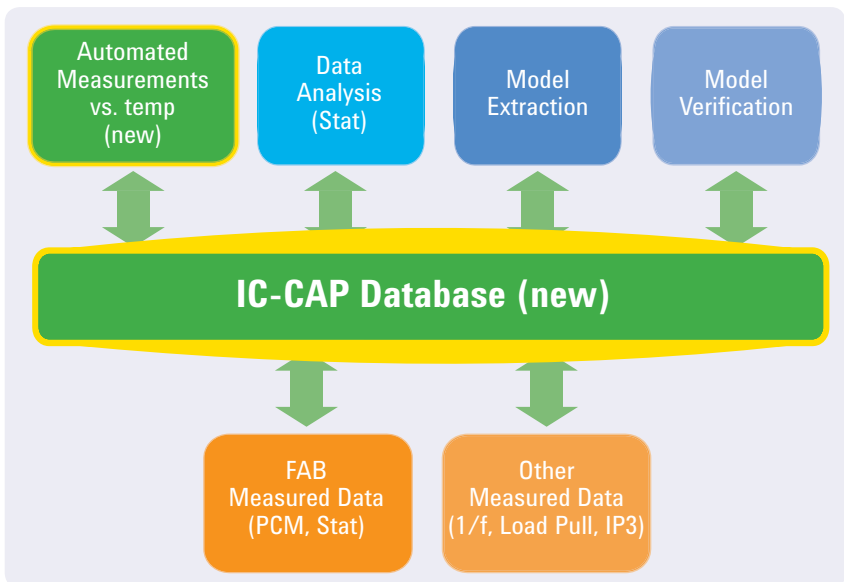

Figure 1. Typical device modeling flow
Accurate DC/CV (and RF) statistical modeling of CMOS devices requires collecting a significant amount of measured data from different wafers across several temperatures. DC and RF device modeling teams must adopt a modeling flow that includes a sophisticated automated measurement solution and efficient data handling capabilities to support advanced statistical analysis and modeling (Figure 1). Automated measurement software must combine the ability to drive probers, switching matrixes and thermal chucks according to a predefined wafer map, with the ability to run complex DC/CV and RF measurements using a variety of instruments—from parametric testers to single box instruments. Furthermore, measured data must be processed upon measurement to calculate Electrical Test (ET) data, such as V_{th} , I_{dmax} or f_T .